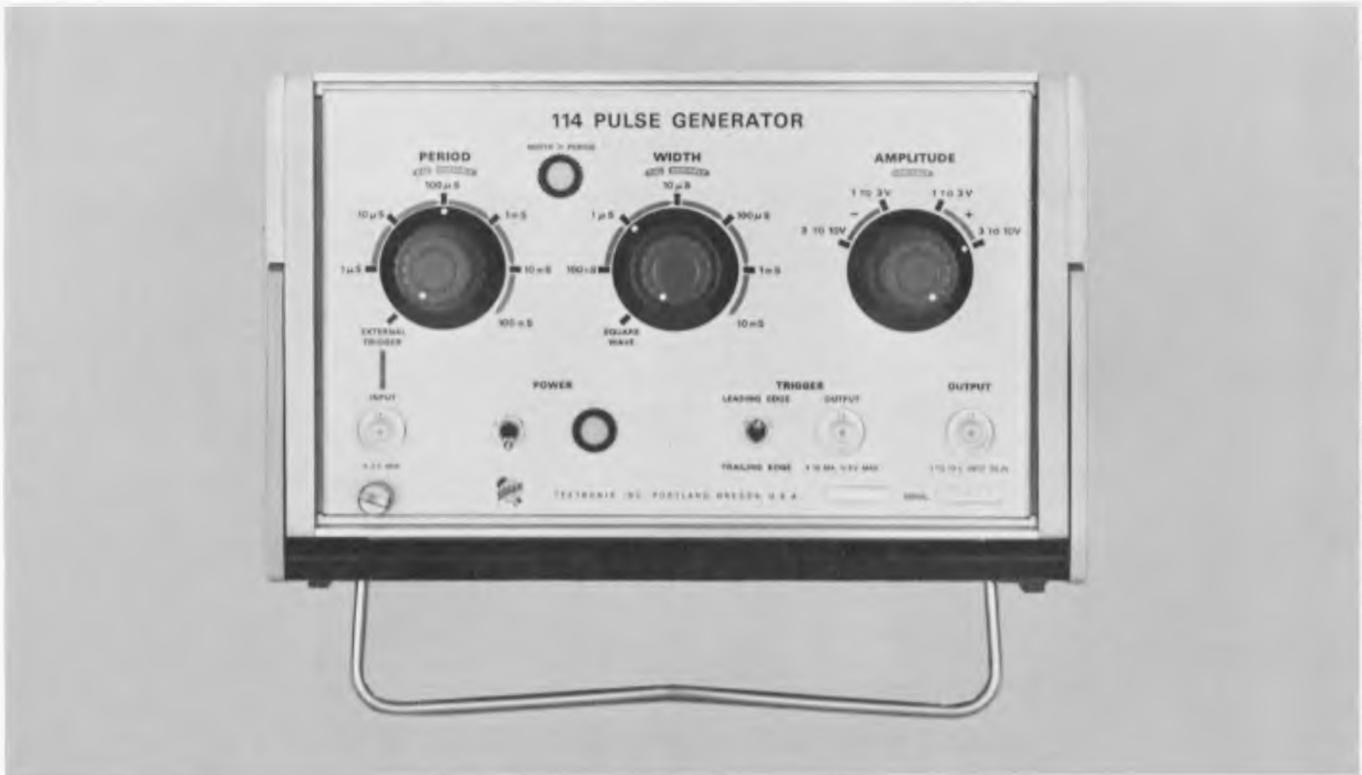
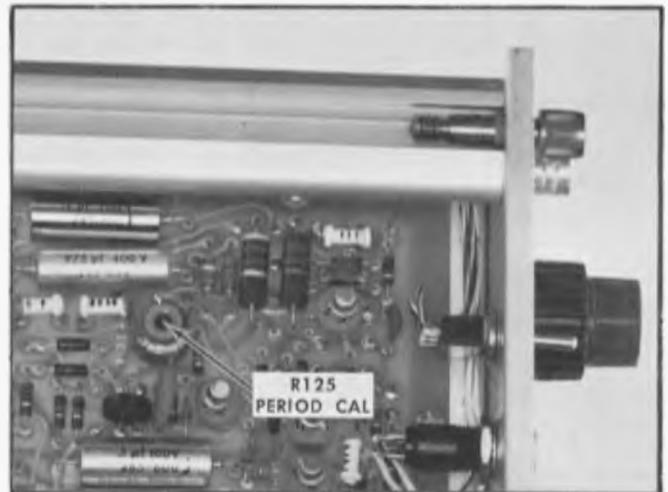

Fig. 4-5. Control settings for PERIOD CAL adjustment.
Fig. 4-6. Location of PERIOD CAL control R125.
a. Set the Type 114 WIDTH — VARIABLE control to CAL. Turn the WIDTH control to 1 μs and the PERIOD control to 100 μs (see Fig. 4-5).
e. Set the Type 547 HORIZONTAL DISPLAY switch to B. Set the TIME/CM (B) switch to .1 mSEC. Set the TRIGGERING-SOURCE switch to INT-NORM, the SLOPE switch to —, and the MODE switch to TRIG. Adjust the TRIGGERING LEVEL control for a stable display of the 100 microsecond markers from the Type 180A.
g. Adjust the PERIOD CAL control R125 (see Fig. 4-6) so that the corresponding pulses in the two traces are aligned horizontally to within 1/2% (see Fig. 4-7).